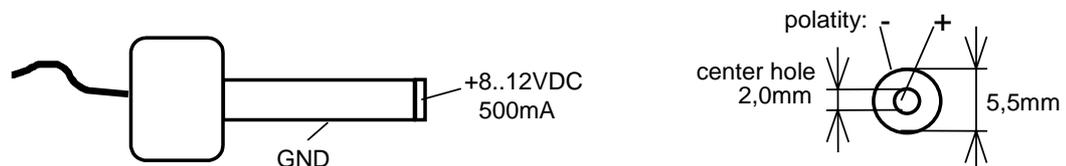

Figure 3: Power Connector
- Using the included power adapter, connect the power socket on the board (P3) to a power supply (refer to Figure 3 for the right polarity).